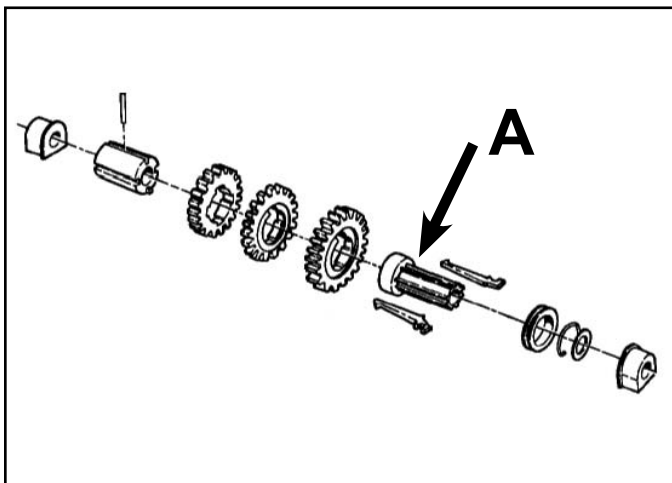

Fig 123
4. Slide the nylon shift key sleeve onto the output shaft, large end first. Make sure that it engages the tabs on the gear sleeve (Fig. 123).